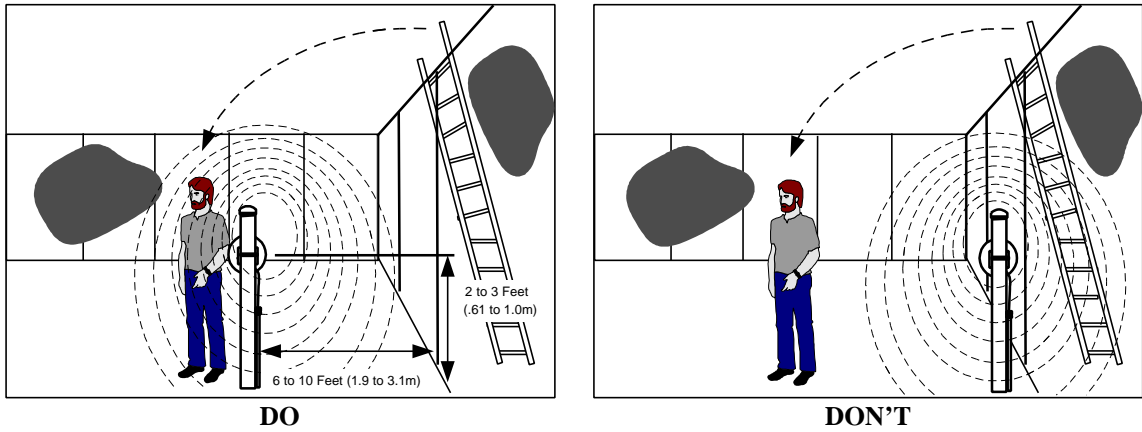

Figure 12
4. **Best Security.** Choose the location that will provide best security, yet be free from false alarms. Always locate Model 310B inside a controlled access area to prevent unwanted alarms due to random foot traffic, vehicles, or large animals. Typically, units should be mounted two and one-half to three feet (0.75-1.0m) above ground level, and far enough inside fence to provide a clear area of protection. See Figures 12 & 13.